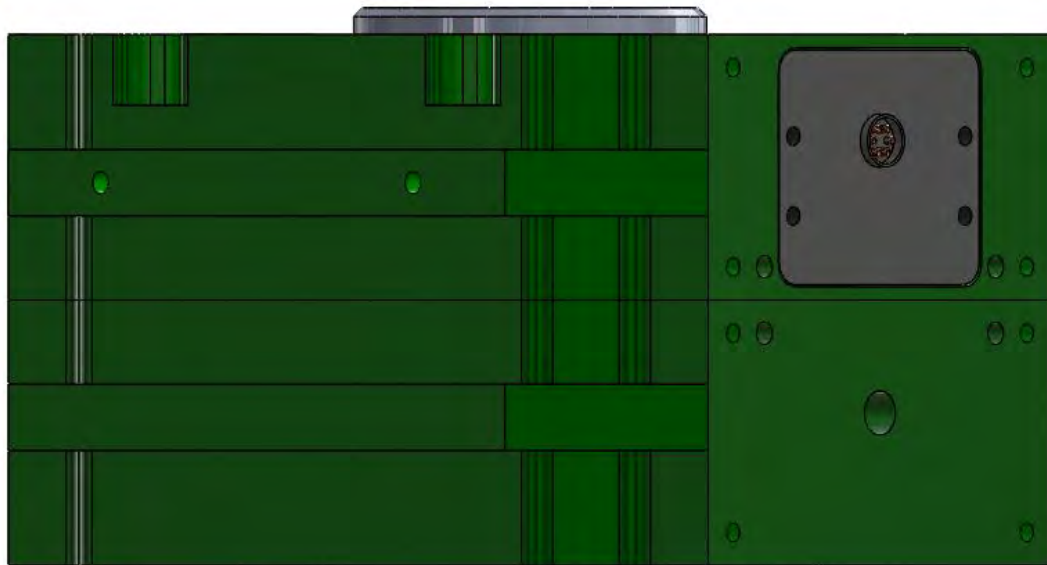

Figure 6.2-2. E125 Tool Changer – Docked Position
5. Stop the motion when the distance between the Robot Adaptor interface surface and Tool Adaptor interface surface are touching or as close as can reasonably be achieved. At this time, any electrical or fluid connections will be made through the use of available side modules. Note that when the interface surfaces of the Robot Adaptor and Tool Adaptor are in contact, the outer edge of the Adaptors should be touching (Figure 6.2-2).